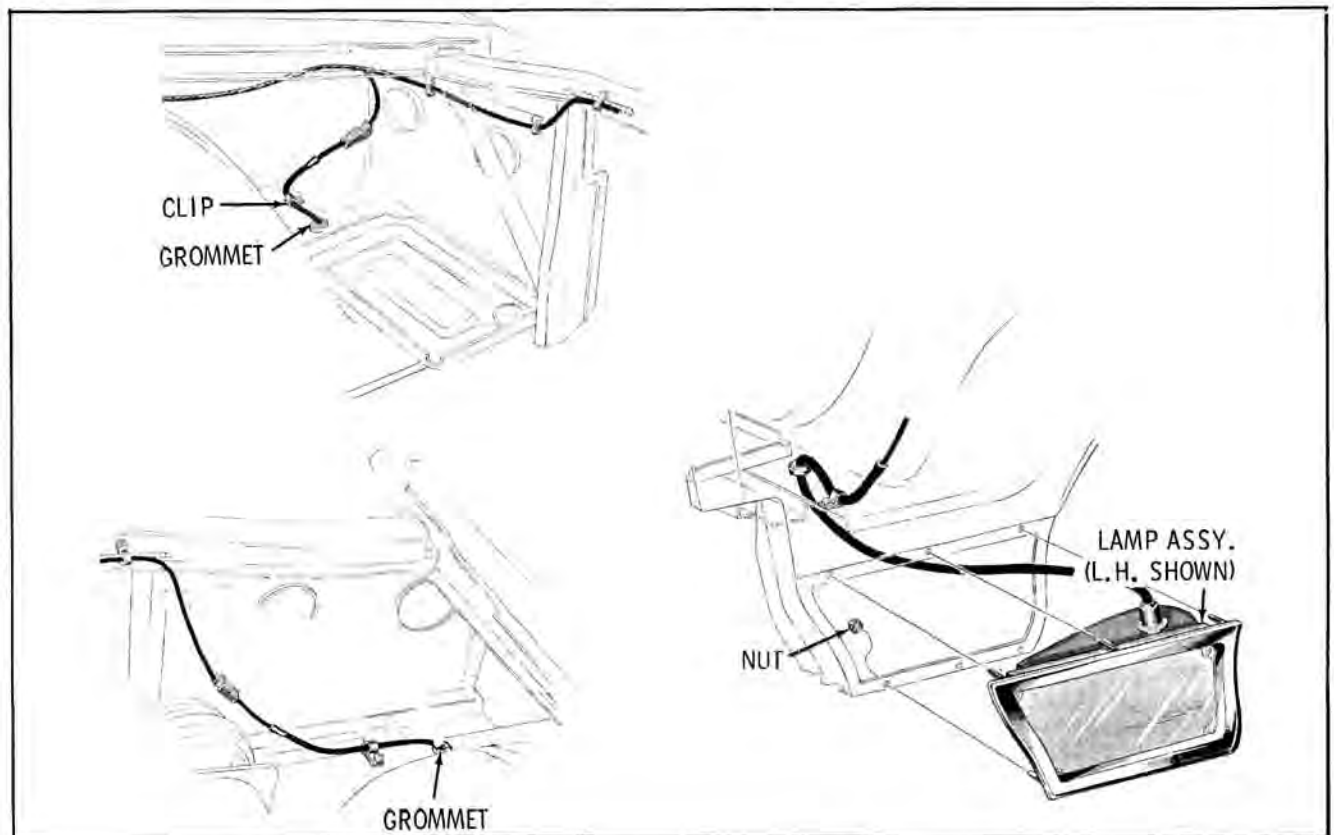

Fig. 12-51 Cornering Lamps
**CORNERING LAMPS (Fig. 12-51)**